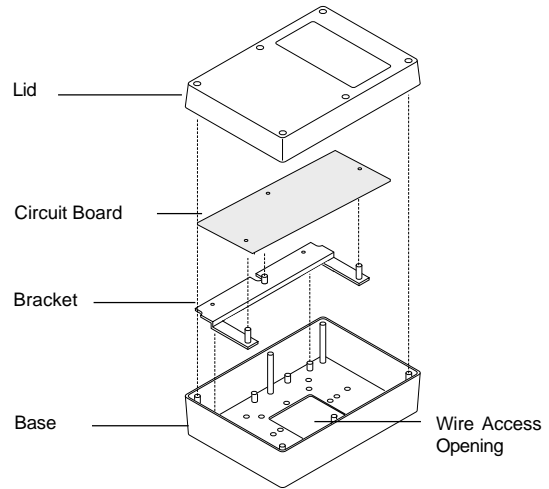

Figure 1. Exploded view
1. Pull the wiring through the wire access opening in the unit base. See Figure 1.
7. Attach the unit lid to the base. See Figure 1.